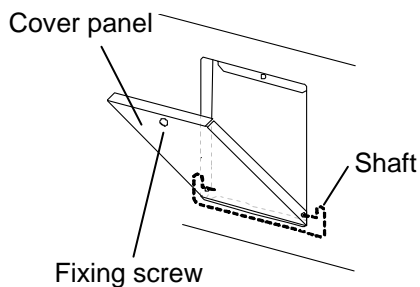

Fig. 10
1. Remove a cap for the fixing screw on the panel cover for mounting space of temperature recorder. Remove the fixing screw and open the panel cover. Remove the panel cover by pushing the shaft on both sides outward. (Fig. 10)